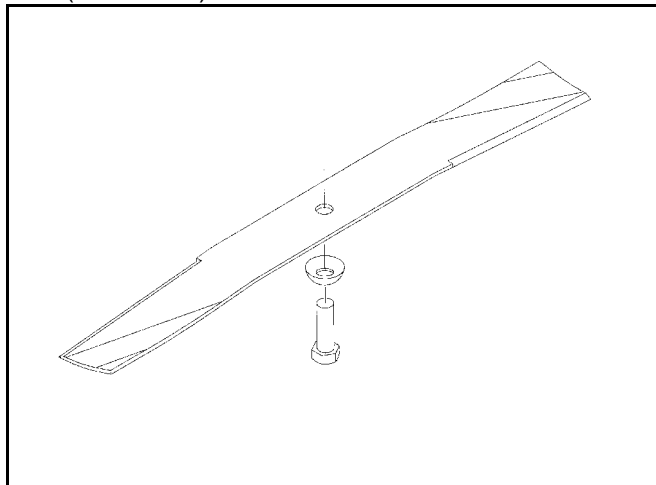

Figure 13
6. Reinstall sharp, balanced blade, washer and blade bolt. Sail part of blade must point toward top of mower housing to ensure correct installation. Washer is curved and must be reinstalled with curve side down as shown in (Figure 13). Tighten blade bolt to 35-40 ft. lbs. (48-54 N·m).